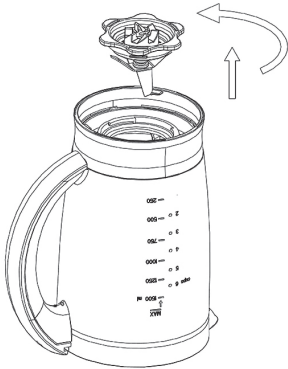
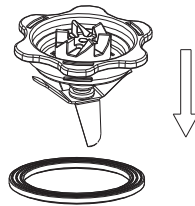

Fig. 3
Fig. 4
3. To remove the blade assembly (not the plastic collar) from the jug, firmly grasp the lugs of blade assembly on the underside of the jug. Twist the assembly anti-clockwise to remove (fig 3). Lift off the silicon seal (fig 4). **Please note the blade assembly may be difficult to remove the first time.**